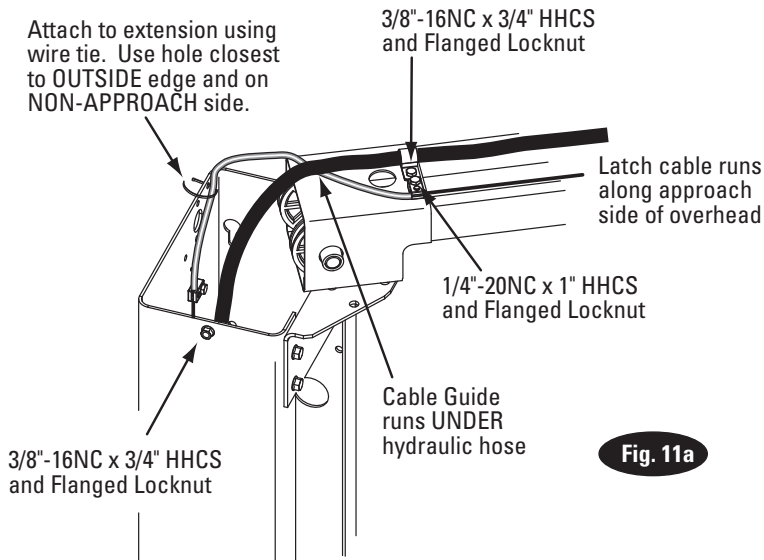

Fig. 11a
NOTE: Route Power Unit hose inside columns using slots provided at column base, Fig. 9b. Route Overhead Hose in column channel on outside of column, Fig. 9b. Overhead hose goes over top end of overhead assembly, Fig. 11a.
IMPORTANT Using wire ties provided, tie off cable guide to column extension as shown, Fig. 11a. Guide must be attached in hole closest to the outside edge of the column on the NON-APPROACH side.
- D) Attach latch cable conduit guide brackets to overhead as shown, Fig. 11a & Fig. 11b. Always use the holes on the approach side of the lift. HHCS should be in hole nearest the center of the overhead, Fig. 11b.
- E) Route cable up inside column and through the latch cable guide, Fig. 11a & Fig. 12.
- F) Continue routing cable to the left column latch cable guide, Fig. 11a & Fig. 12, routing the cable through the left column latch cable guide, Fig. 11a.